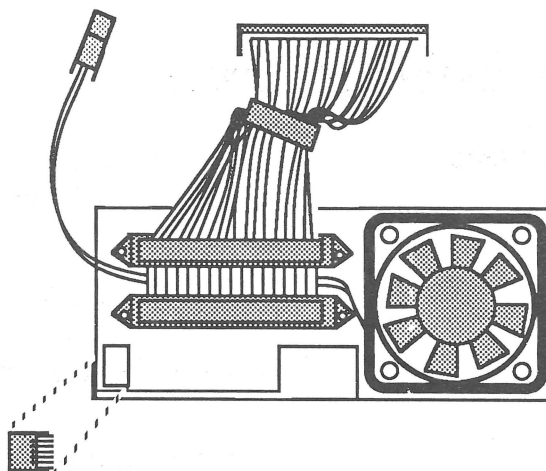

FIGURE 9
1. Position the switch so the top of the number is toward the cable connectors. Pass the switch from outside to inside through the opening in the metal case (Figure 9). The plastic arms on the switch will lock it in place.